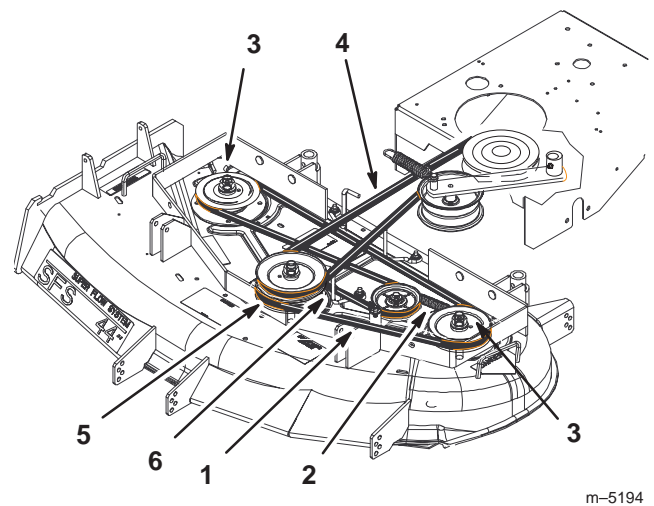

Figure 57
5. Disconnect the idler arm spring to relieve tension on the idler arm and idler pulley, then remove the worn deck belt (Fig. 57).
6. Install the new deck belt around the two outside spindle pulleys, the idler pulley, and in the lower groove of the center spindle pulley (Fig. 57).
7. Connect the idler arm spring (Fig. 57).
9. Adjust deck belt guide an 1/8 in. (3 mm) from belt (Fig. 57).